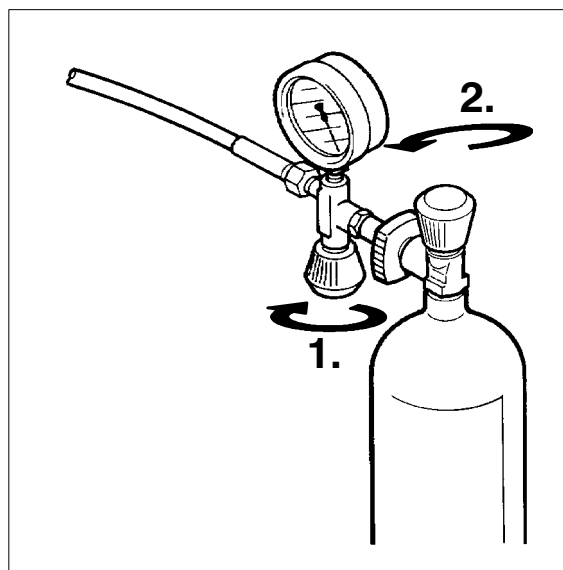

Fig. 41 Filling air bottle
- Open filling valve (1, Fig. 41).
- Open bottle valve (2) - bottle will be filled. Drain condensate regularly during filling. On units with automatic condensate drain check that condensate is drained regularly.